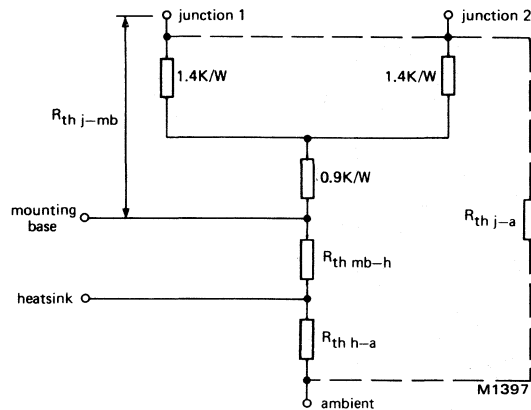

Fig.4
- a. The various components of junction temperature rise above ambient are illustrated in Fig.4